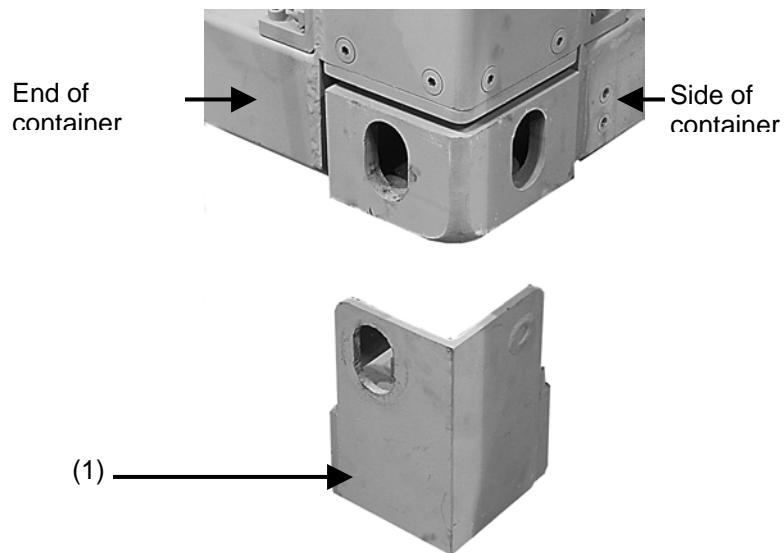

Figure 4-66. ISO extension block aligned with corner of container.
2. With an 18" automotive adjustable wrench (WP 0058 00, SATS Base Tool Component List) turn nut (2) of block T-lock counterclockwise to loosen.
3. While holding collar (1), rotate T-handle (4) to vertical position.
6. Attach an ISO extension block (1) to each of four corners of container by following steps seven through ten below (Fig. 4-66).